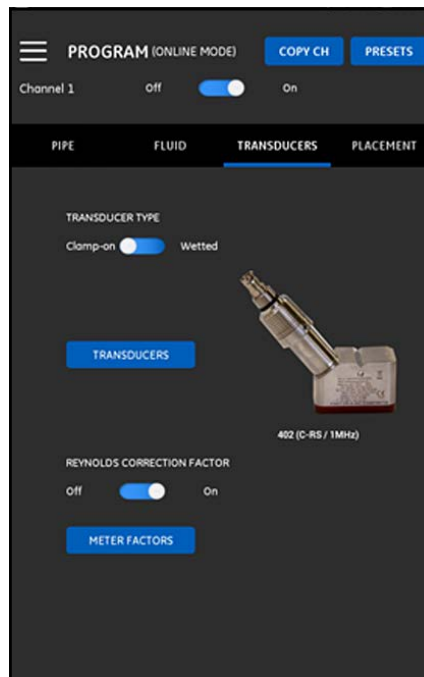

Figure 87: The TRANSDUCERS Menu
An example of this menu is shown in *Figure 87* below. See the following sub-sections for the options available in programming the transducers.
To program your transducer parameters, refer to *Figure 87* on page 58 and complete the following steps:
2. If you select standard transducer from the drop down, you will need to enter only the WEDGE TEMPERATURE (see *Figure 87*). But if you select other as your transducer model, few additional parameters will appear on the screen (see *Figure 88*) and you must edit this data with the correct specific information.
The REYNOLDS CORRECTION FACTOR can be set to either On or Off (see *Figure 87 on page 58*). This factor corrects the fluid velocity measured across a diametrical path so that it more accurately represents the average fluid velocity across the entire cross-sectional area of the pipe. The REYNOLDS CORRECTION FACTOR should be turned On for all clamp-on measurements.
To program the METER FACTOR, refer to *Figure 87* on page 58 and complete the following steps: